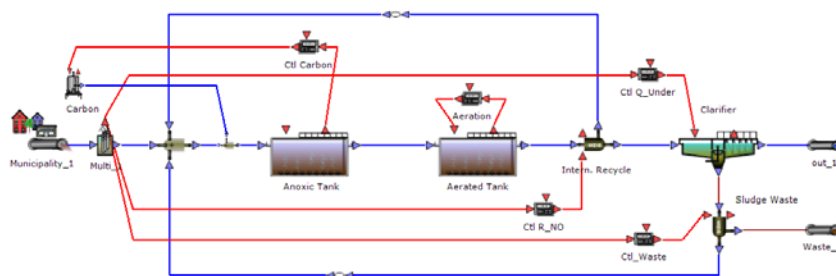

Figure 10.6 Final layout for the TwoASU\_PE case
- The necessary blocks and their settings are listed in Table 10.2. You may want to assign the new controllers to the Control Layer, as it was done for the aeration in Chapter 6 ‘The TwoASU Sample, Step-by-Step’. The final layout is shown in Figure 10.6.